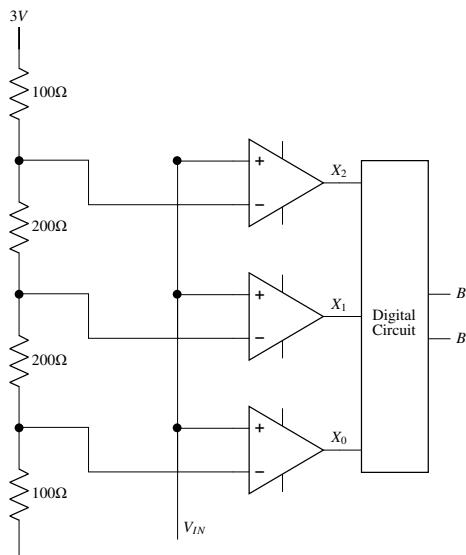

Fig. 3.18
35. A 2-bit flash Analog to Digital Converter (ADC) is given in Fig. 3.18. The input is $0 \leq V_{IN} \leq 3$ Volts. The expression of the LSB of the output B_0 as a boolean function of X_2, X_1 , and X_0 is